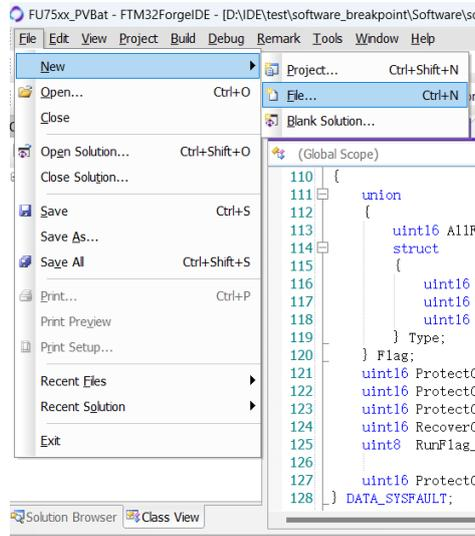

Figure 2-9
Step 1: Select "File" → "New" → "File" in the upper left corner, as shown in Figure 2-9.